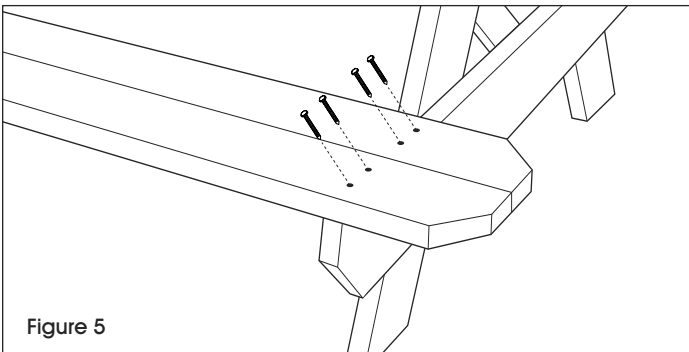

Figure 5
11. Place the outside edge of the seat bench flush with the ends of the seat braces and align the ends of the bench with the edge of the table top. Use a 1/8" drill bit to pre-drill holes. Attach the seat bench to the braces using eight 2 1/2" wood screws per bench seat. Repeat for opposite seat bench. (See Figure 5)